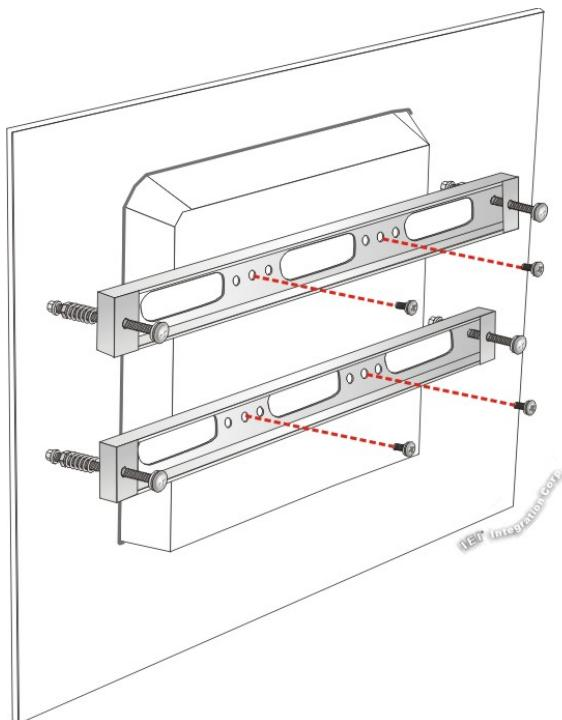

Figure 3-15: Securing Panel Mounting Brackets
Step 7: Secure the two panel mounting brackets to the rear of the panel PC by inserting the four retention screws into the VESA mounting holes and tightening them (Figure 3-15).